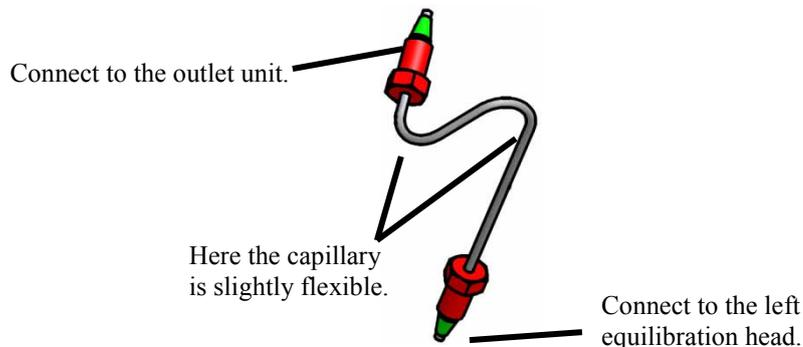

Fig. 57: Capillary from left equilibration head to outlet unit (HPG-3x00M)
- b) First, insert the capillary into the hole on the equilibration head. Then, slightly turn the capillary as necessary and insert the other end into the hole on the outlet unit. If you need to bend the capillary during the installation, be careful to bend the tubing only slightly and only at the position marked in Fig. 57. Only at these positions, the capillary is flexible enough to return to its original shape after being bent.